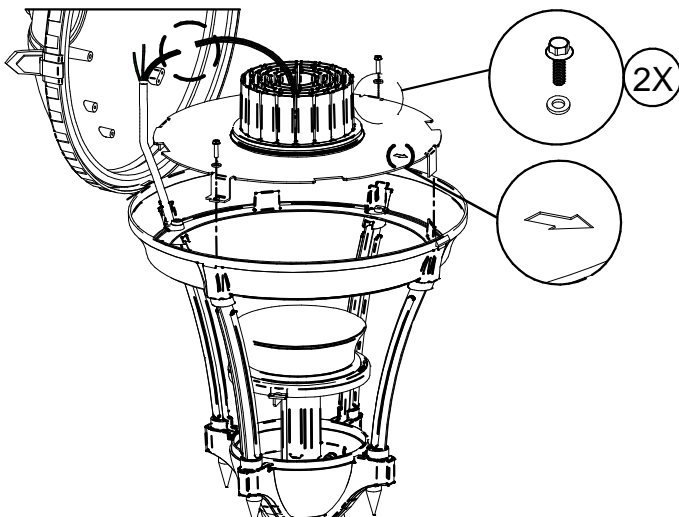

FIG. 7-1
3. Install Light Engine assembly using (2X) supplied 10-24 x .75" screws (FIG 7-1).